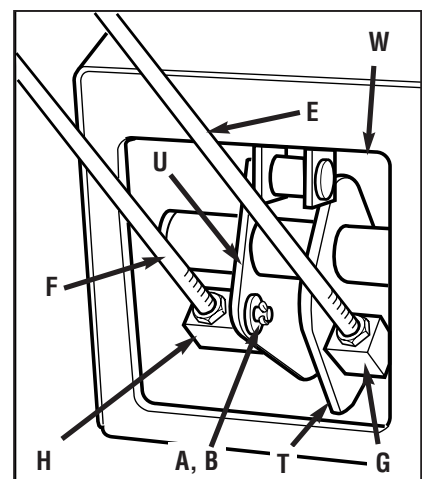

Figure 2-4: Left-hand control rods detail.
2. At left side of engine deck, insert swivel block (H, Figures 2-4 & 2-5) on wheel drive control rod into wheel drive control arm (U, Figure 2-4).
3. Add a 5/16" washer (A, Figure 2-4) and secure with a hairpin clip (B).
1. Locate the Operator Presence Control rod (E, Figures. 2-4 and 2-5). At bottom of control rod, insert swivel block (G, Figures 2-4 & 2-5) into control arm (T, Figure 2-4).